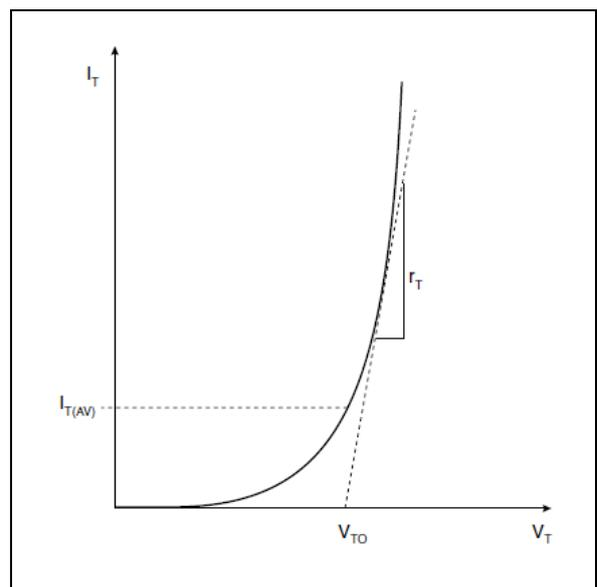

Fig. 4
4. As fig. 4, a tangential point constructed such that the value of  $I_{T(AV)}$  calculated from: